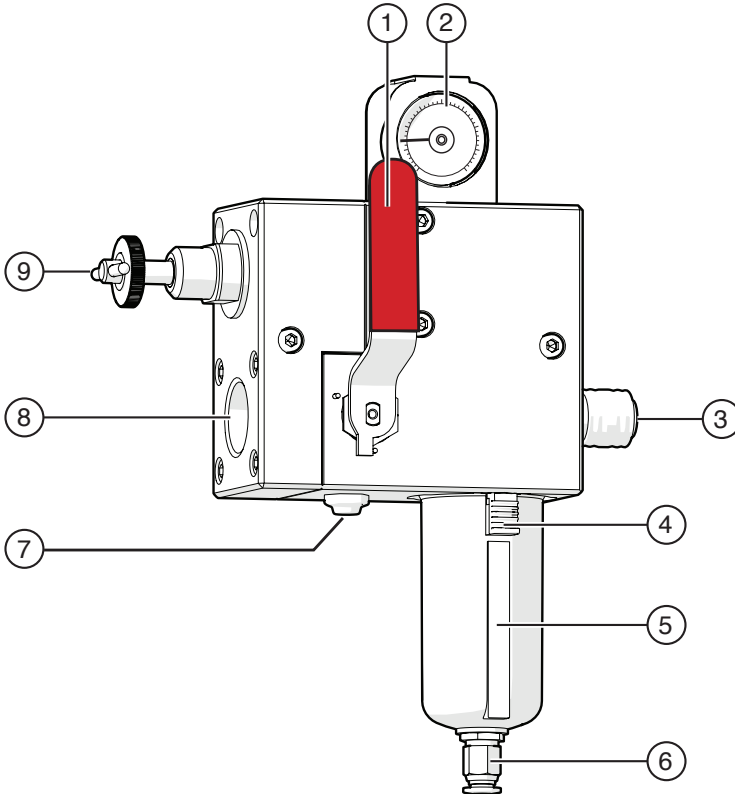

Fig. 15 Maintenance elements
- Check the container (see Fig. 15, no. 5) for dirt residue regularly and clean as required.